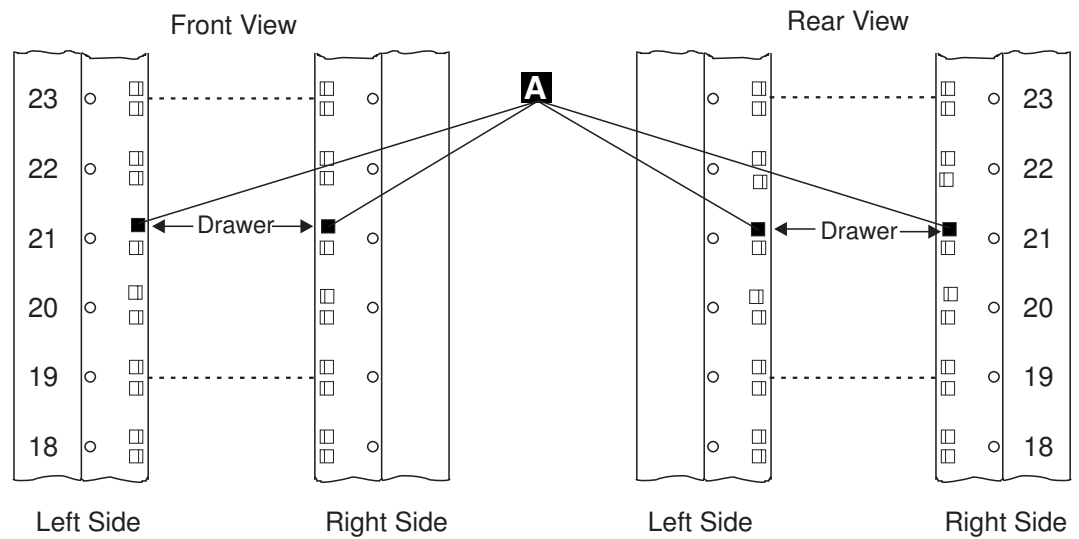

Figure 1-5. Installing Captive Nuts for the Service Drawer
8. See Figure 1-5, and if needed, install four captive nuts **A** (PN 58G5766) on the front and on the rear side of the controller expansion, to install the service drawer.